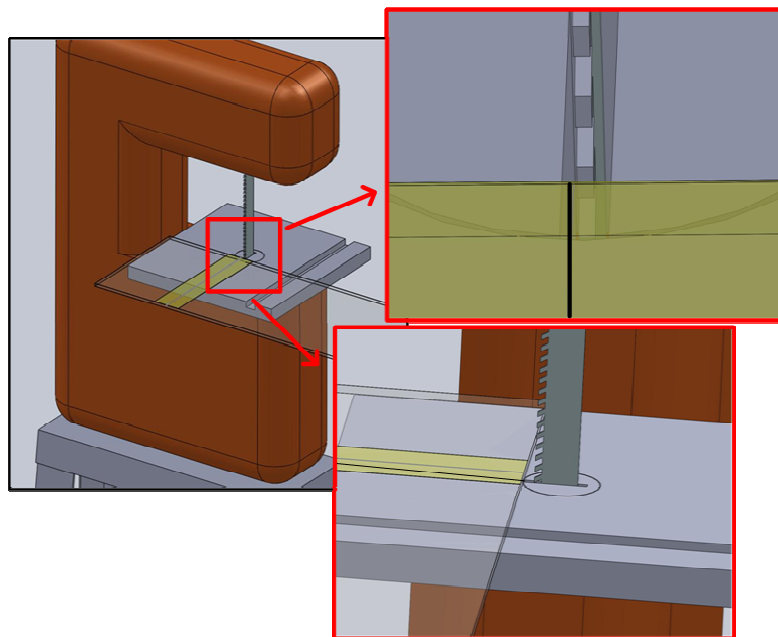

Figure 3: The line to be cut should be off-set from the blade to ensure that the resulting work piece will be the desired dimension.
- C. Turn on the **Band Saw**. Place the acrylic sheet on the table of the **Band Saw** and align the band saw blade with the line drawn on the Packing Tape in Step 1C as shown in Figure 3.